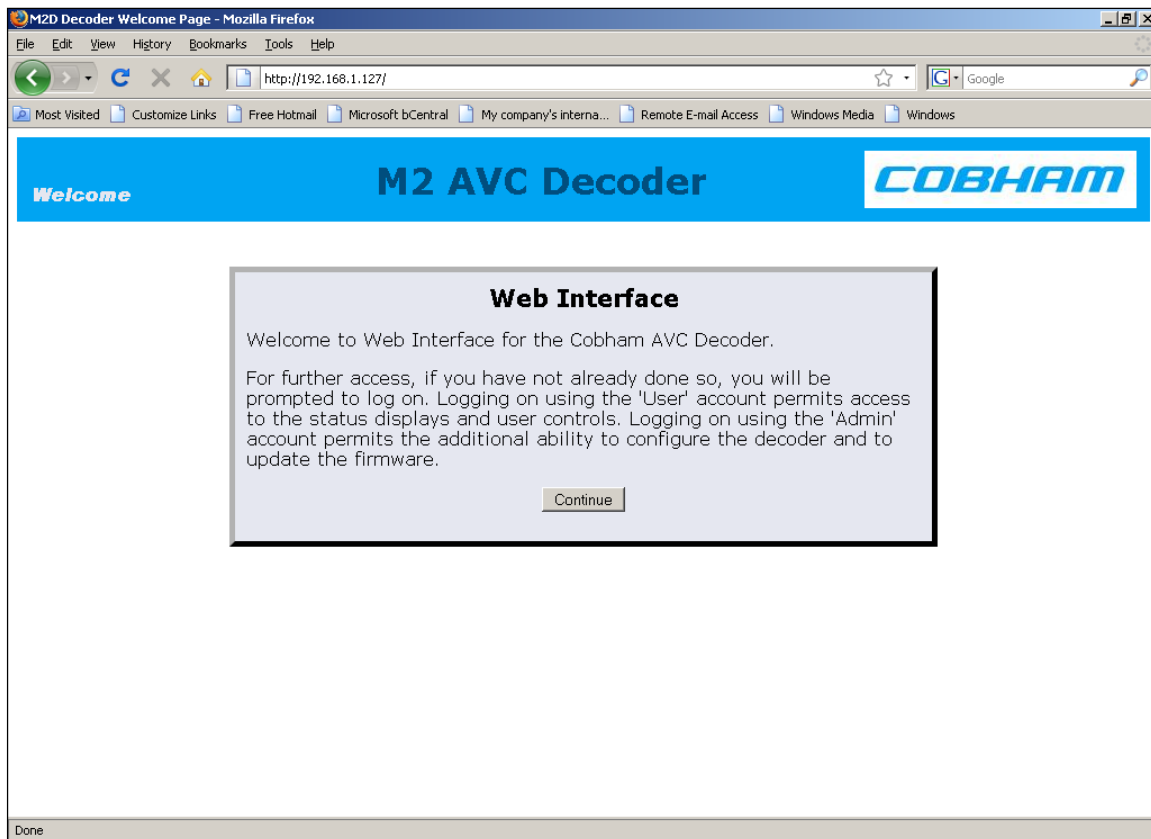

Figure 21 – Web Interface
Step 1: Open Microsoft Internet Explorer or Firefox and type in the IP address, see section 5.3 on how to acquire the IP address from the M2D. See Figure 21 below. The Web page opens...click on the “continue” button.